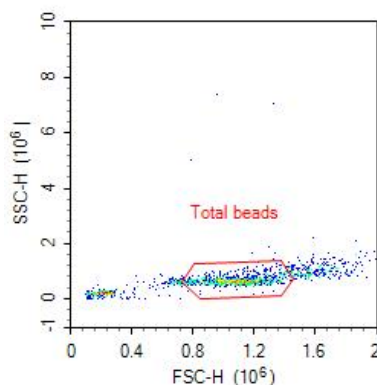

Figure 1
- 2) From the toolbar, click the dot plot sign and a dot plot will appear with FSC-H (forward scatter) for X-axis and SSC-H (side scatter) for Y-axis (Figure 1). FSC-H/SSC-H dot plot is used for "Total beads" gate to separate target beads from debris. Set the FSC-H and SSC-H to linear mode. To change the mode, click on the coordinate axis, then right click the mouse and select property.
- 2) Set the flow cytometer flow rate to low. Run the Setup Bead Cocktail $120 \mu\text{L}$. Adjust the gains in the Parameters (the upper left of the window) for FSC-H and SSC-H, so that all bead populations are visible (Figure 1). From the toolbar, click the Elliptical Gate (Other graphics gate can also be used) and use the mouse to drag the populations to the middle of the dot plot. **Pause and restart acquisition frequently during the setup procedure to refresh the bead populations after adjusting settings.**